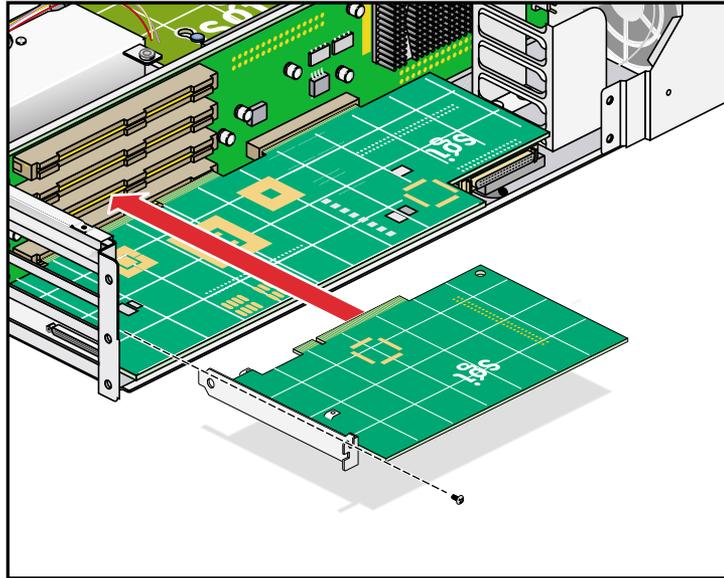

Figure 7-9 Installing the Card and Retaining Screw
8. To replace the card you removed, carefully insert it into the slot and screw in the retention screw, as shown in Figure 7-9. If you are not replacing the card you have removed, proceed to the next step.